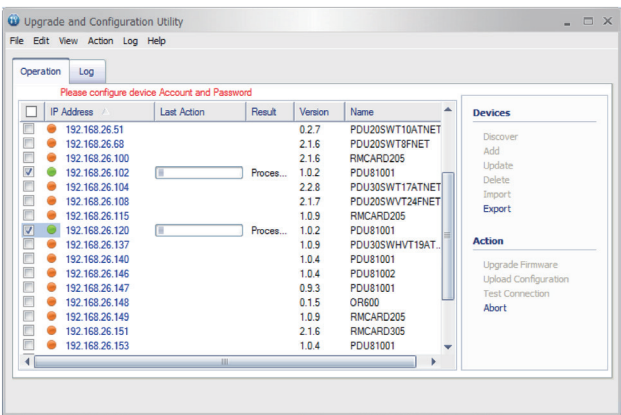

Figure 6
- 9. The upgrade progress bar will show in **Last Action** column (Shown in Figure 6).